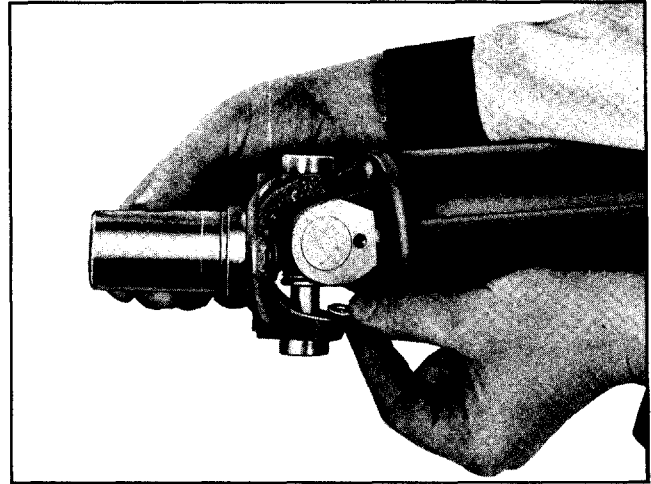

Fig. 4-51 Placing Washers Inside Bearing of Splined Yoke Member
d. With yoke down as far as possible, place three or four flat washers (1/2" O.D.) inside lower bearing (Fig. 4-51). **NOTE:** Total thickness of washers should be 1/8" - 3/16".